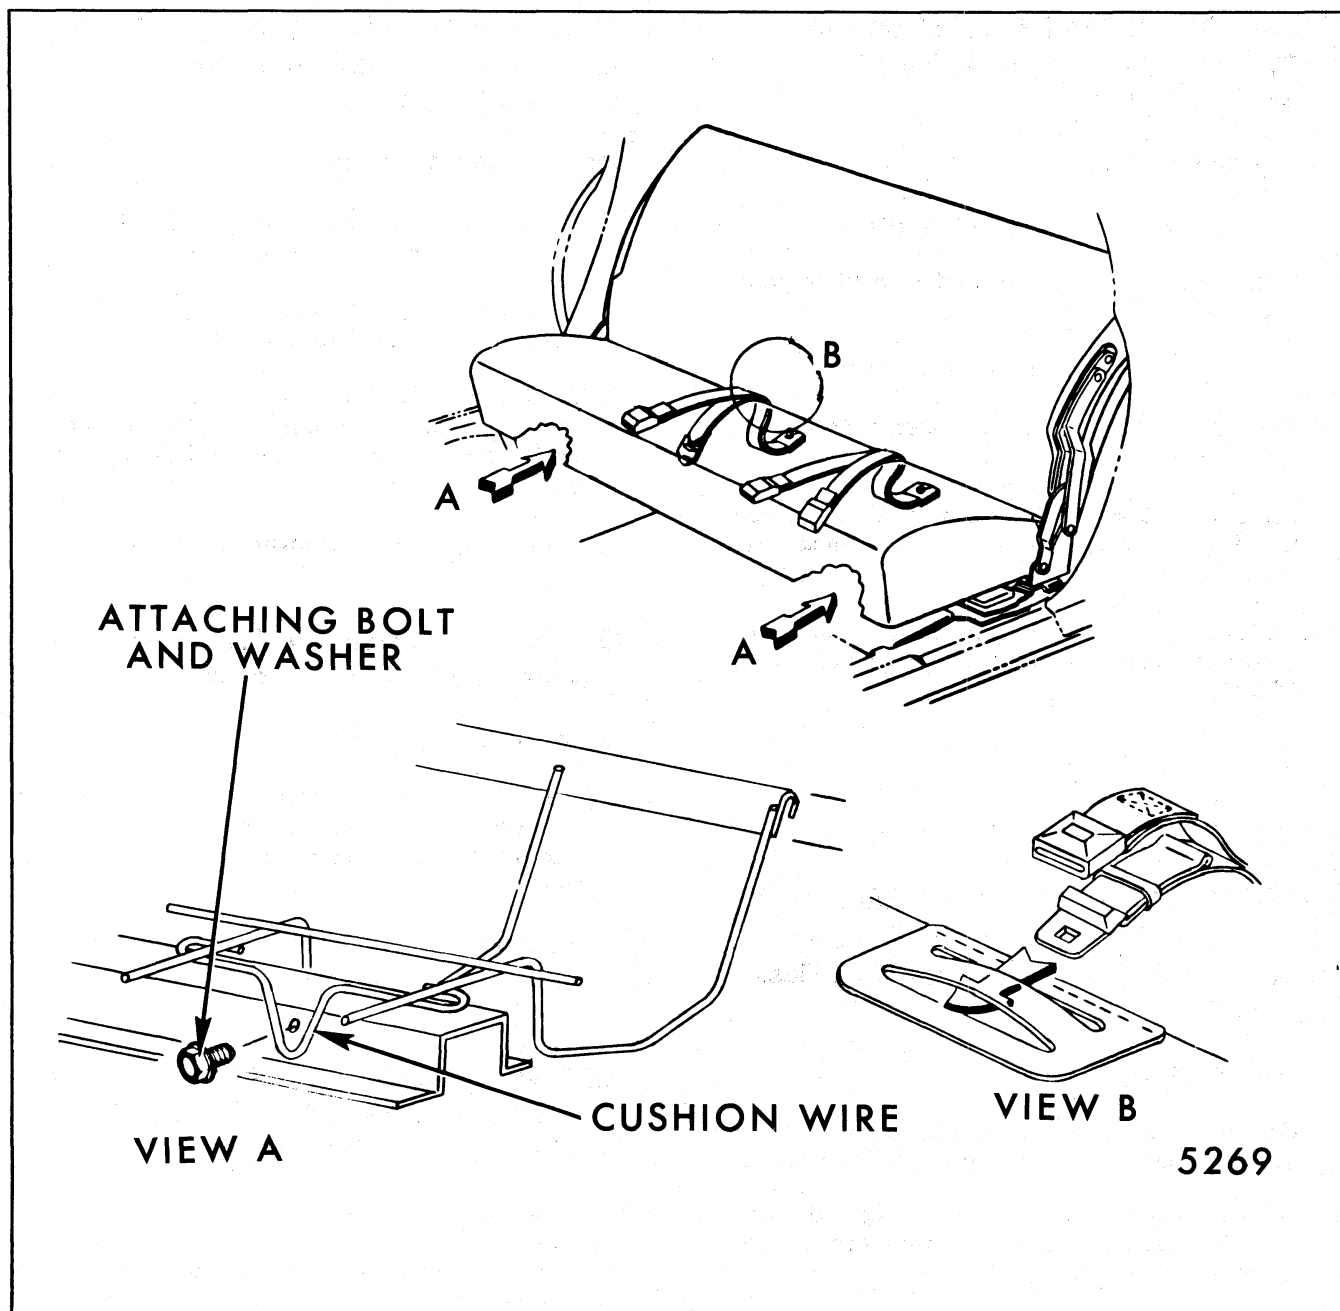

Fig. 9-91-Second Seat Cushion Attachment - "A" Body Two and Three-Seat Styles
1. Remove two seat cushion wire attaching bolts at forward edge of seat cushion. Then lift upward and pull forward on seat cushion to remove (Fig. 9-91).